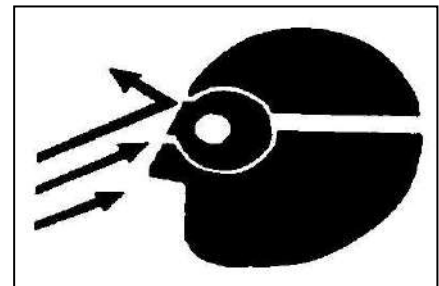

Figure 1.22
- 1) Prevent splash metal or grits hurt, wear blinkers or safety glass (As figure 1.22).